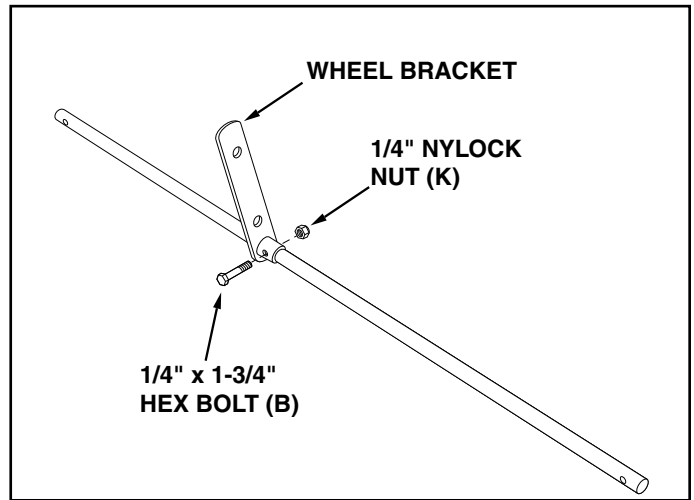

FIGURE 2
3. Attach the wheel bracket to the hole in the middle of the shaft using a 1/4" x 1-3/4" hex bolt (B) and a 1/4" nylock nut (K). Tighten. See figure 2.